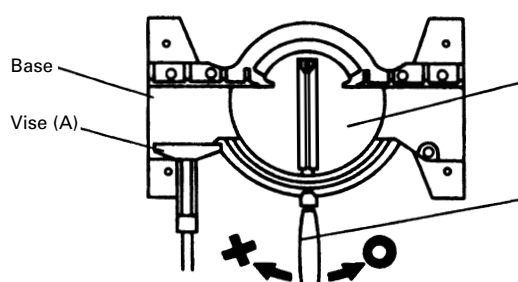
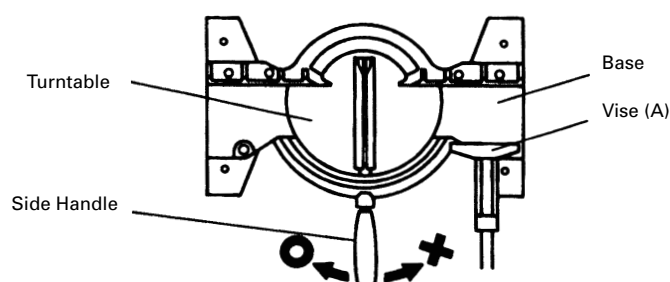

Fig. 17
Fig. 18
⚠ CAUTION: When vise (A) has been mounted on the left of the base as illustrated in Fig. 17, rotate the turntable to the right to start operation. When vise (A) has been mounted on the right of the base as illustrated in Fig. 18, rotate the turntable to the left to start operation. Be very careful not to rotate the turntable in the same direction as the vise (A) is mounted, which would cause the vise (A) to be cut by the saw blade, resulting in breakage of both.